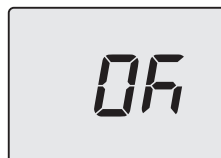

Fig. 10.6
- Press button 14 (Fig. 10.1) to confirm the value entered. The display will show the following (Fig. 10.6) for 5 seconds, then move up to the next level.